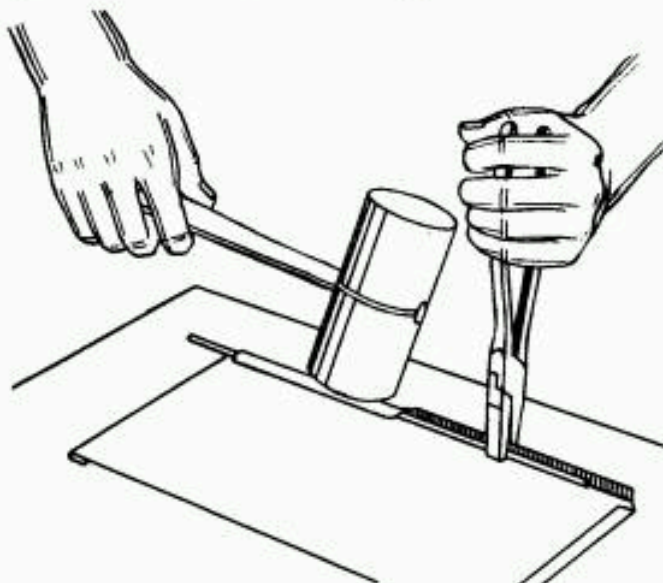

FIG. 2 HOLDING WIRE WITH PLIERS
5. Start the fold over the wire the entire length of the edge, using a mallet and pliers. (Fig. 2).